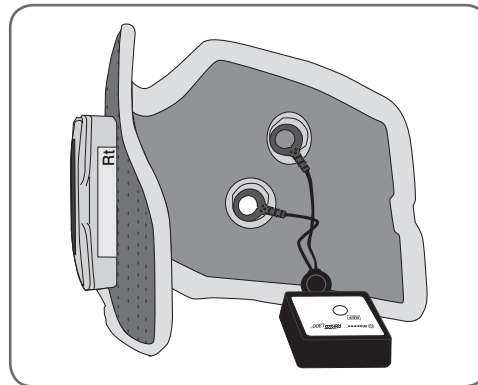

Figure 11-1: Tester connected to the L300 FS Cuff.
1. Connect the Tester to the L300 FS Cuff plug holes. See Figure 11-1.